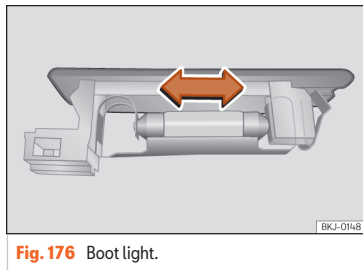

Fig. 176 Boot light.
- Press the bulb sideways and remove it from its housing »» Fig. 176.